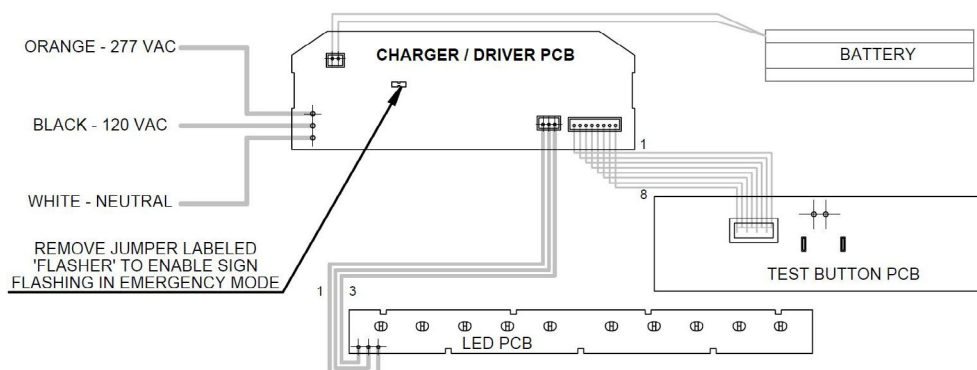

FIGURE 4
5. Determine whether the sign will be single or double face, and snap the appropriate decorative back-plate provided to the back of the fixture. (See Figure 4)